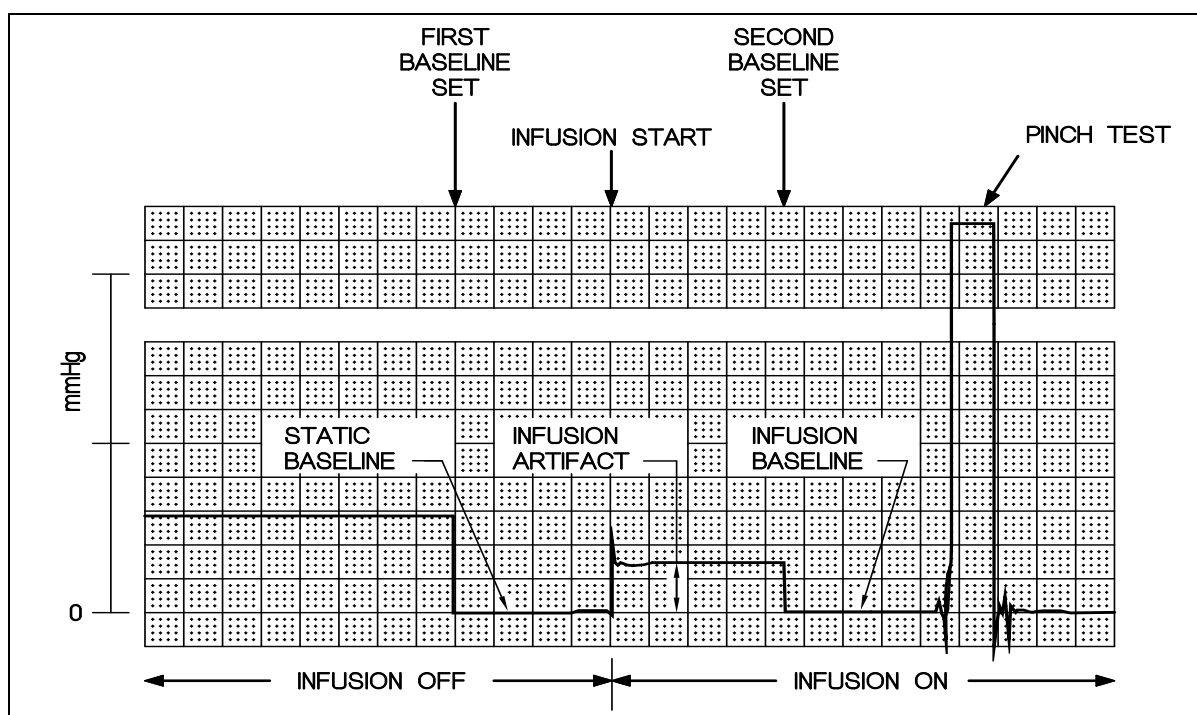

Figure 19: Infusion Artifact
6. Run the computer or chart recorder same as for a motility study such that with the master on/off valve at the OFF position, baseline tracing is set to zero pressure (Figure 19).
All tracings should show an increase at baseline of 2-10 mm Hg. This is known as the infusion artifact. See Figure 19. It is caused by friction and restriction of the water flow passing through the catheter. If an abnormally high infusion artifact occurs, blockage or leakage may have occurred within the manometric catheter (see Section 5.2).
- Connect the catheter to the transducer and lay it horizontally on top of the transducers. Flush thoroughly with water. With master on-off valve at **OFF** position, run the recording system and set baseline to "0" for the system. Then turn master on-off valve **ON**, and check the recording for the 2-10 mmHg rise of the infusion artifact (Figure 19, Section 5.1).